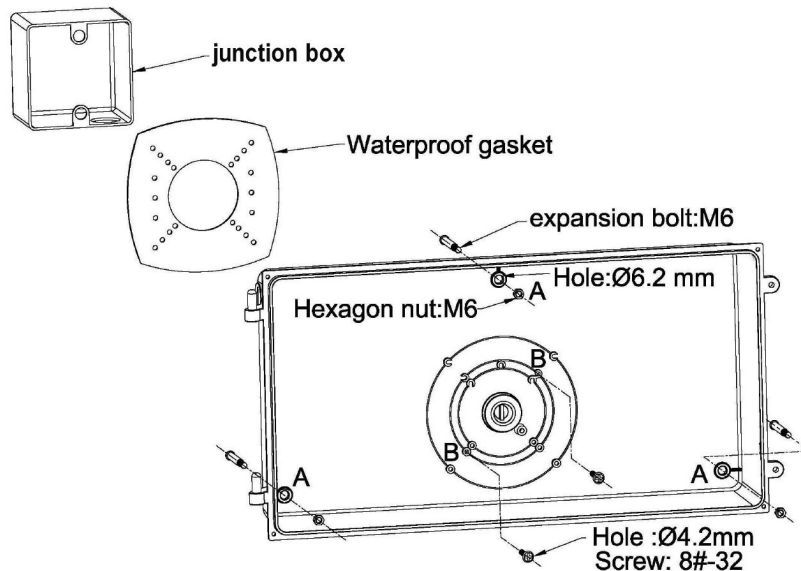

FIG. 1
2. Prepare the back plate for use (see FIG. 1), by drilling or knocking out two 4.2mm holes (see "B") on the inside back surface of the wallpack to match most standard recessed junction boxes, or for more secure installation, drilling three 6.2mm holes (see "A") to lag back plate to mounting surface directly.
5. Mount the back plate firmly to the J-box by two 8#-32 screws (See "B" of FIG. 1), or to the mounting surface by three M6 Expansion Bolts and M6 Hexagon nuts (see "A" of FIG. 1)